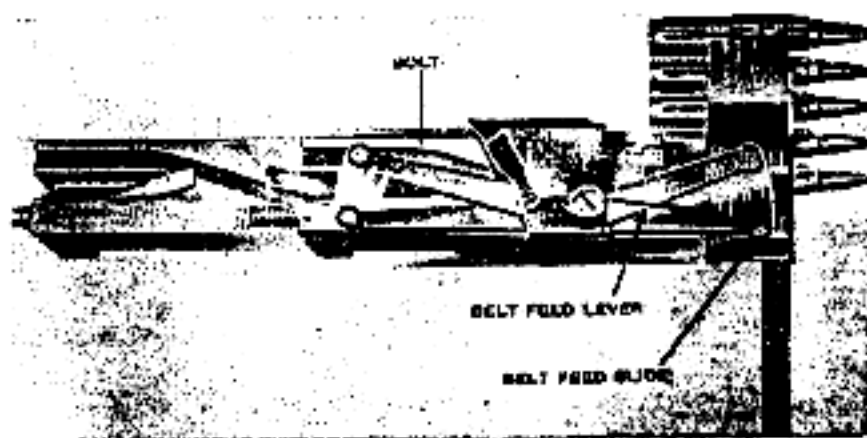

Figure 59. Action of belt feed lever.
- (1) Ammunition is fed into the gun by means of a metallic link belt. The belt feed mechanism is actuated by the bolt (fig. 59). When the bolt is in the forward position, the belt feed slide is within the receiver. The stud on the end of the belt feed lever is engaged in the cam groove in the top of the bolt.